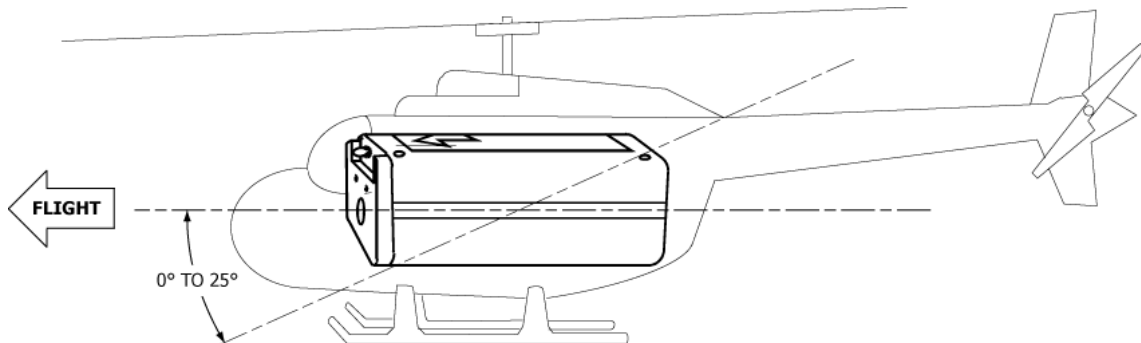

Figure 27 Orientation of ELT for Helicopter Installations
- 1) Mount the C406-1HM ELT parallel to the waterline of the fuselage, along the longitudinal axis, with the direction-of-flight arrow on the ELT pointing forward. See Figure 27.